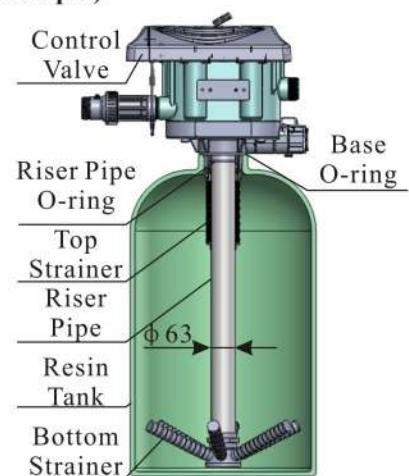

Figure 1-1
- ① The filter or softener should be located close to drain.
- ② Ensure the unit is installed in enough space for operating and maintenance.
- ③ Brine tank need to be close to softener.
- ④ The unit should be kept away the heater, and not be exposed outdoor. Sunshine or rain will cause the system damage.
- ⑤ Please avoid to install the system in one acid/alkaline, magnetic or strong vibration circumstance, because above factors will cause the system disorder.
- ⑥ Do not install the filter or softener, drain pipeline in circumstance which temperature may drop below 5°C, or above 45°C.
- ⑦ One place is recommended to install the system which cause the minimum loss in case of water leaking.
- ① Install control valve
a. As the Figure 1-1 shows, select the riser pipe with 63mm OD, glue the riser pipe to the bottom strainer and put it into the mineral tank, cut off the exceeding tube out of tank top opening. Plug the riser tube in case of mineral entering.